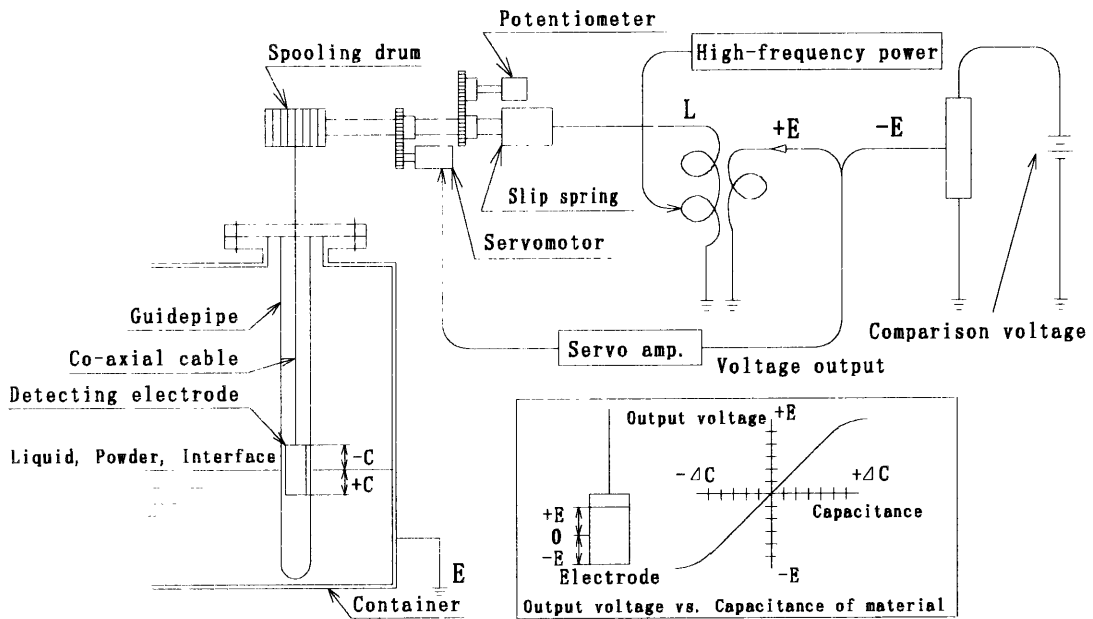

Fig.3
Fig.3 shows the block diagram of the principle of operation.
The sensor electrode suspended by the co-axial cable is installed inside the guidepipe. Run the other end of the cable through the spring after winding it to the spooling drum. First, the inductance (L) and the capacitance (C) measured by an electrode tunes with the frequency (f) of the high-frequency voltage sent from the converter. Then parallel resonance circuit synchronizes and Max. high-frequency voltage generates on an electrode. Since there is a capacitance change in measuring material, the high-frequency voltage changes like Fig.3.